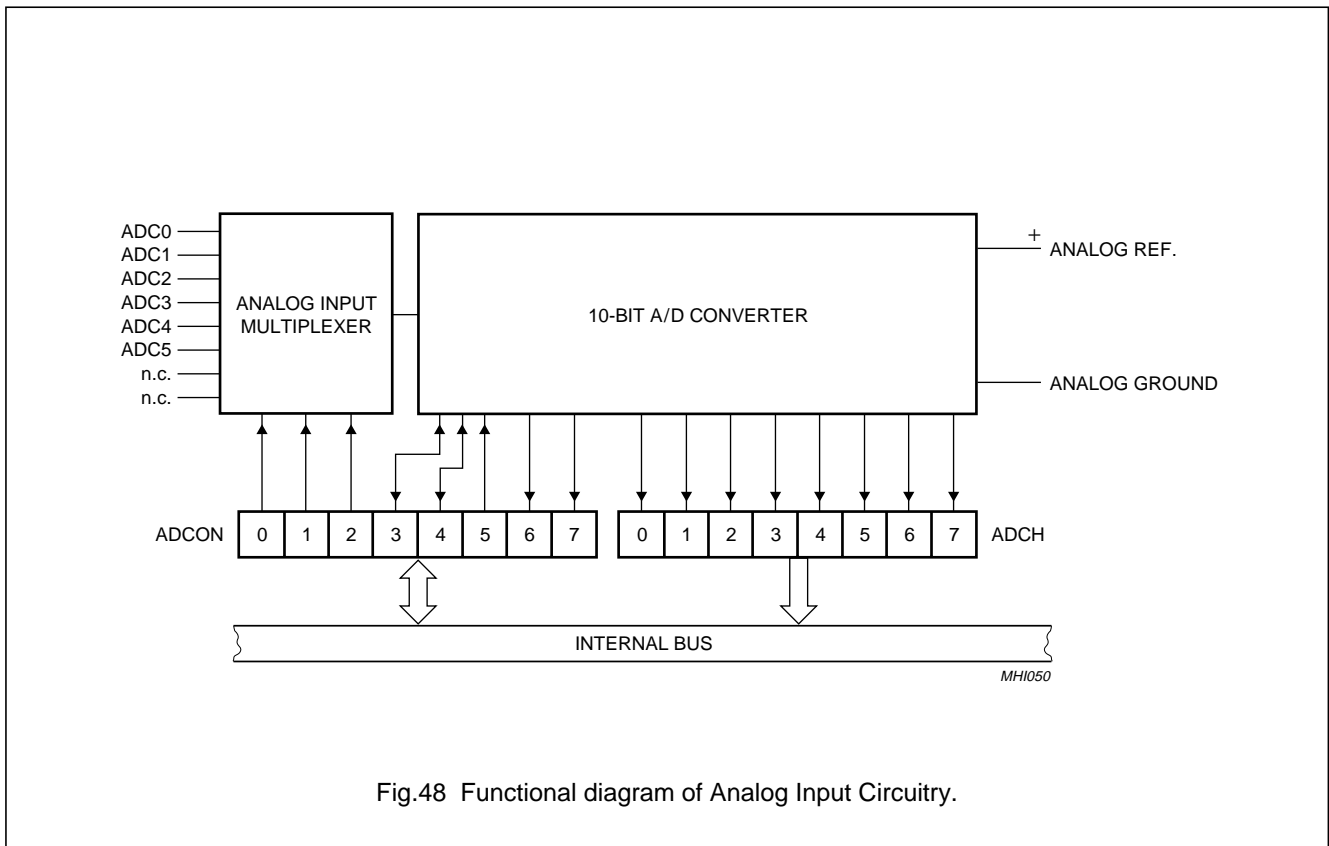

Fig.48 Functional diagram of Analog Input Circuitry.
The analog input circuitry consists of an 6-input analog multiplexer and a 10-bit, straight binary, successive approximation ADC. The A/D can also be operated in 8-bit mode with faster conversion times by setting bit ADC8 (AUXR1.7). The 8-bit result will be contained in the ADCH register. The analog reference voltage and analog power supplies are connected via separate input pins. For 10-bit accuracy, the conversion takes 50 machine cycles, i.e., 25 μ s at an oscillator frequency of 12 MHz. For the 8-bit mode, the conversion takes 24 machine cycles. Input voltage swing is from 0 V to +5 V. Because the internal DAC employs a ratiometric potentiometer, there are no discontinuities in the converter characteristic. Figure 48 shows a functional diagram of the analog input circuitry.
Figure 48 shows the elements of a successive approximation (SA) ADC. The ADC contains a DAC which converts of a successive approximation register to a voltage (VDAC) which is compared to the analog input voltage (V_{IN}). The output of the comparator is fed to the successive approximation control logic which controls the successive approximation register. A conversion is initiated by setting ADCS in ADCON register. ADCS can be set by software only.
otherwise the bit being tested is cleared. This process is repeated until all ten bits have been tested, at which stage the result of the conversion is held in the successive approximation register. Figure 48 shows a conversion flow chart. The bit pointer identifies the bit under test. The conversion takes four machine cycles per bit.
Figure 48 shows how the ADC is realized. The ADC has its own analog ground (AV_{SS}) and a positive analog reference pin (V_{ref+}) connected to each end of the DAC's resistance-ladder. The ladder has 1023 equally spaced taps, separated by a resistance of "R". The first tap is located 0.5 x R above AV_{SS}, and the last tap is located 1.5 x R below V_{ref+}. This gives a total ladder resistance of 1024 x R. This structure ensures that the DAC is monotonic and results in a symmetrical quantization error is shown in Figure 48.